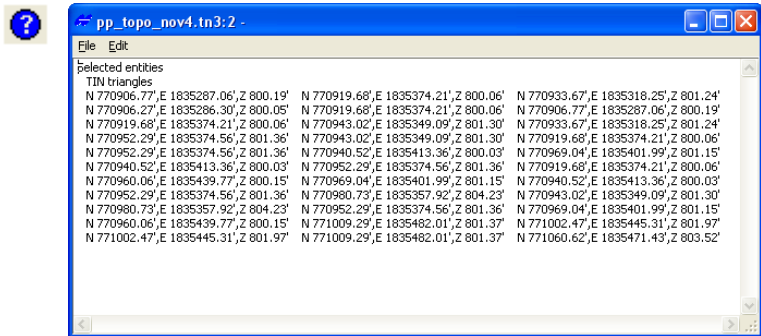

Figure 5-9. Click Information Button to View Selected Entities
2. Click the activated **Information** button on the toolbar. A text editor window opens, displaying the coordinates for the three points of each selected triangle (Figure 5-9).